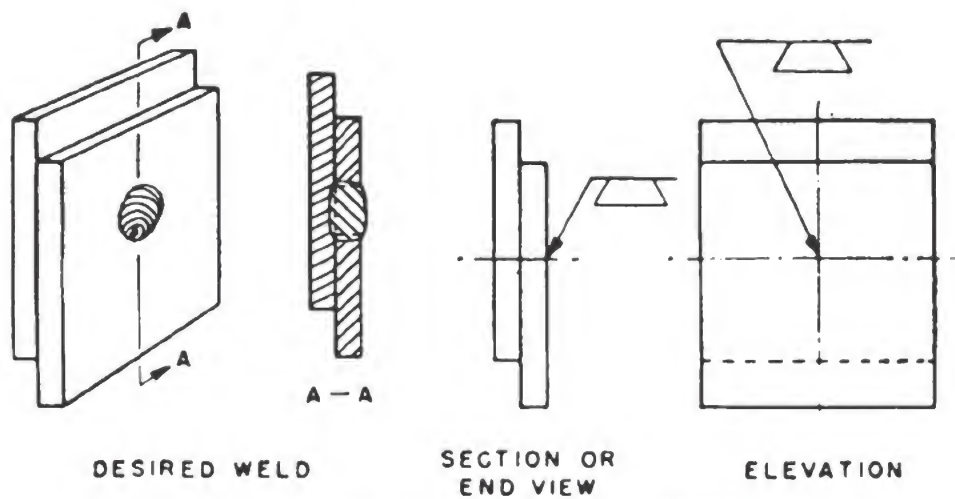

Figure 14-23.—Use of arrow-side plug welding symbol.
2. If the hole to be plug welded is on the arrow side, the weld symbol is placed on the side of the reference line toward the reader, as shown in figure 14-23.